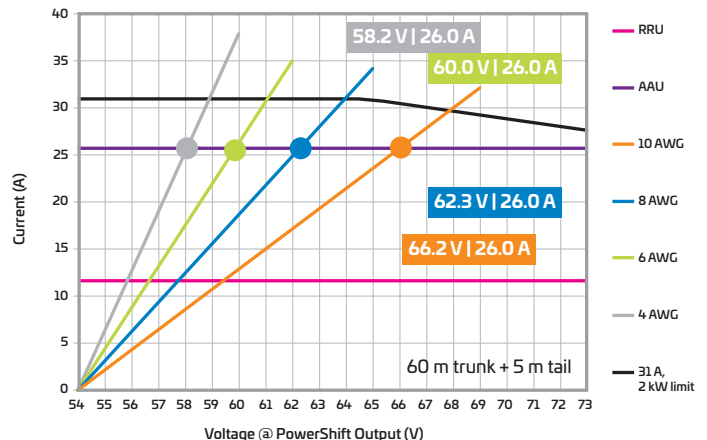

Figure 9: Power feed dimensioning with PowerShift
The results of inserting PowerShift into our power feed example can be seen in Figure 9. Voltage at the radio remains constant at 54 volts while the PowerShift output voltage varies as needed. The PowerShift output voltage, plotted on the horizontal axis, ranges from 54 volts to 73 volts and the current (A) is on the vertical axis. Using the (constant) radio currents at the respective maximum power consumptions of the RRU and AAU, we have plotted the output voltage for the four power trunk gauges. The black curve indicates the 31-amp, 2-kW PowerShift output limits. Even with the higher power consumption of the AAU, a 10-AWG power trunk can now be used while staying well within the limits of PowerShift operation.
Figure 9 demonstrates that PowerShift provides an immediate and robust power feed that is guaranteed to weather a power outage without service interruption. It also enables operators to eliminate the costs and potential structural impacts incurred by upgrading the power trunk to a heavier gauge. Additionally, the PowerShift module (Figure 10) is compact and easy to install, along with required capacitive jumpers at the RRUs. Overall energy efficiency is determined by trunk size and the PowerShift power conversion efficiency, typically 97 percent.